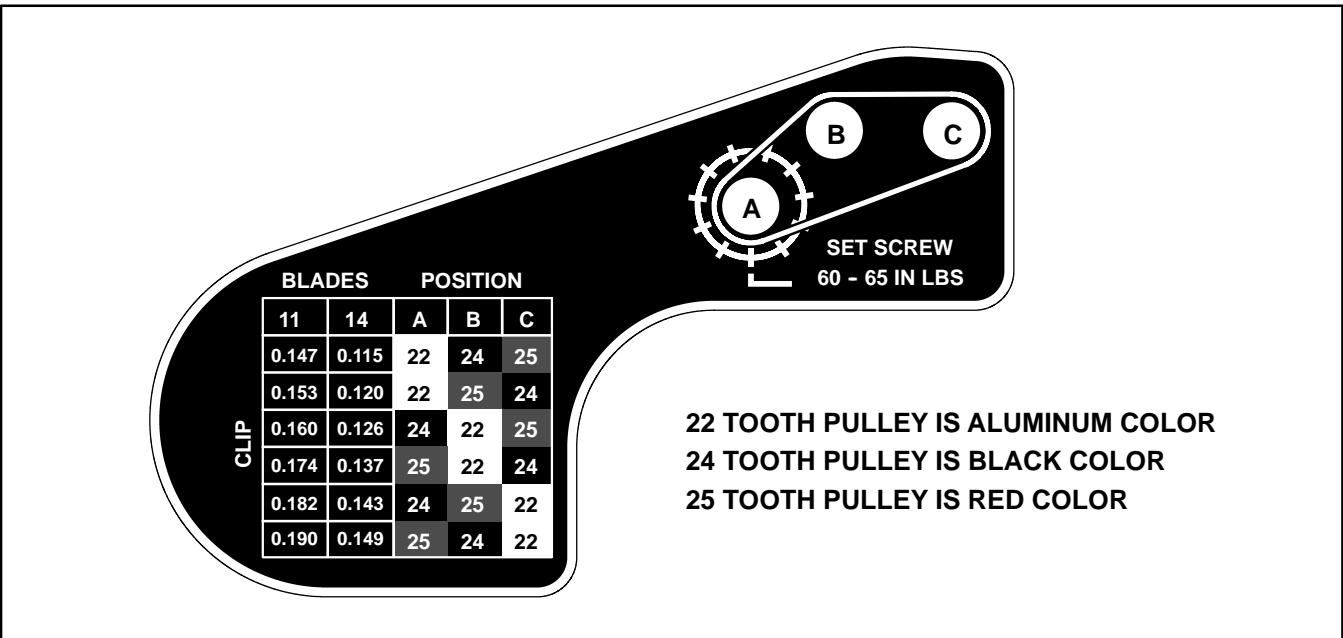

Figure 8
Cutting unit clip adjustment on the Flex 1800 and Flex 2100 can be changed by installing the cutting unit drive pulleys to the appropriate locations on the reel drive assembly. Clip frequency pulley locations for 11 blade and 14 blade cutting units are shown in Figure 8 below.
3. Loosen two (2) set screws from drive pulleys that are to be removed. Slide pulleys from shafts.
4. Apply antiseize lubricant to top of woodruff keys. Arrange pulleys on reel drive assembly as needed for desired clip frequency (Fig. 8).
5. Secure all pulleys with two (2) set screws. Torque screws from **60 to 65 in-lb (6.8 to 7.3 N-m)**.